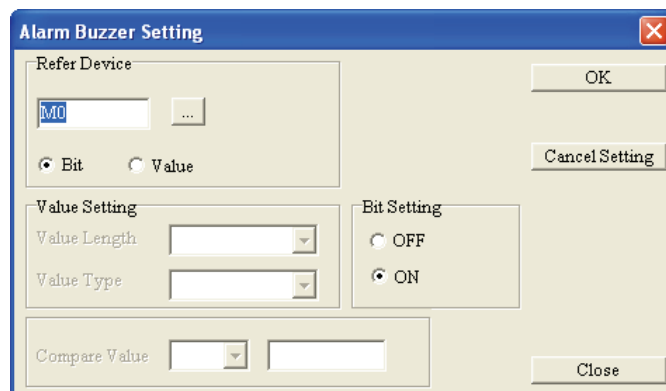

Figure 1-130
Step 2. Then, the following Alarm Buzzer Setting dialog box will appear on the screen (Figure 1-130).